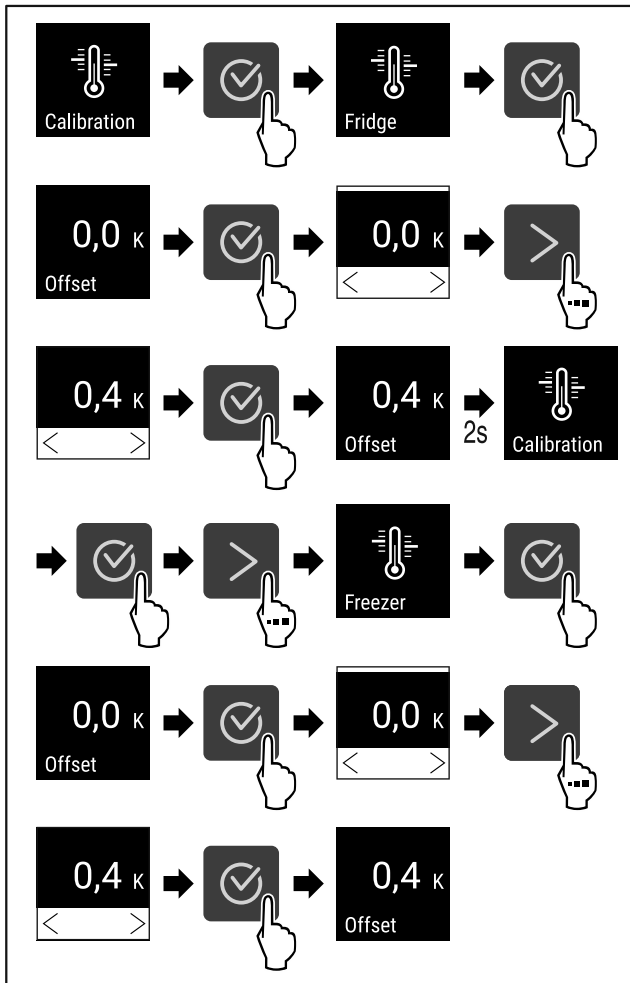

Fig. 124
- ▶ Complete steps (see Fig. 124).